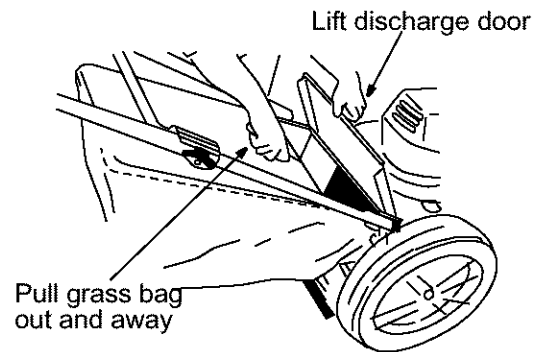

Figure 9
- Place the hooks of the grasscatcher into the slots in the handle bracket assemblies on both sides. See Figure 9. Release the rear discharge door.